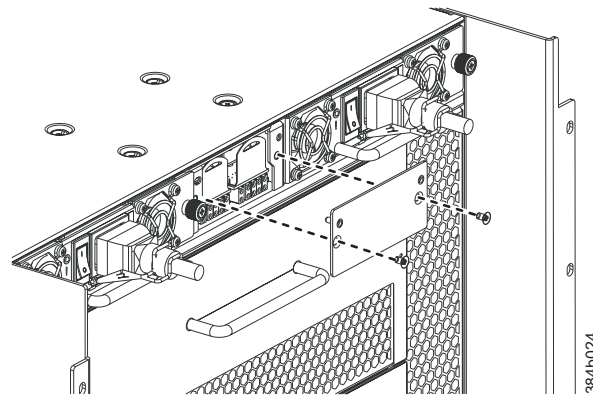

Figure 38. WWN bezel and card removal and installation
8. Remove the two screws from the WWN bezel . Pull the bezel away from the chassis and set it aside (see Figure 38). The two WWN cards are now visible.
7. Install the WWN bezel. Orient the bezel on the chassis (see Figure 38 on page 107). Insert and tighten the two screws.